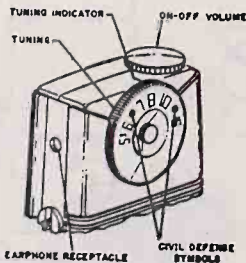

Fig. 1
1. Turn On-Off Volume Control (figure 1) clockwise about half a turn.
Conelrad Civil Defense Symbols are provided at 640 and 1240 kilocycles on the dial (see figure 1). To tune in a Conelrad station, align either symbol on dial with Tuning Indicator.
An earphone for use with your receiver is available from your dealer as an accessory. To connect earphone, insert plug on end of cord into receptacle on left side of case (figure 1). Press plug firmly into place. The speaker shuts off automatically when the earphone is connected.